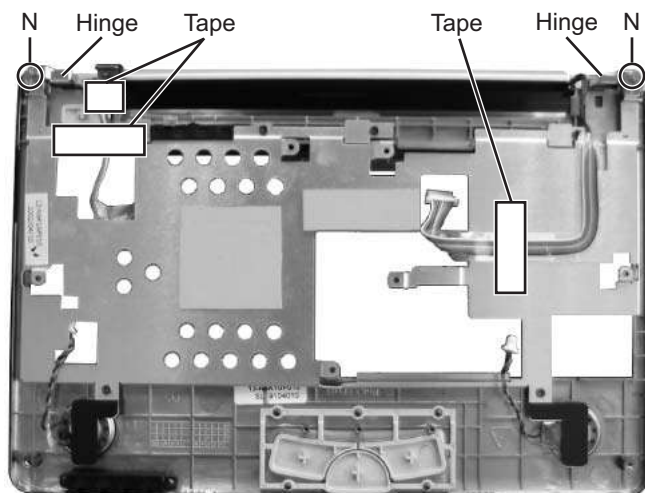

Fig.16
1.1.6 Removing the top case and the LCD panel assembly (See Figure 16)